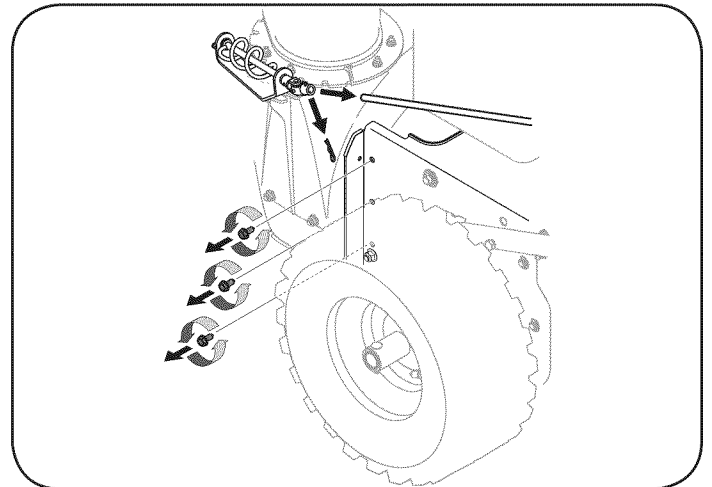

Figure 28
1. Remove the chute crank rod from the chute crank assembly by removing the hair pin clip shown in Figure 28. Move the chute crank rod away from the assembly as shown.
2. Remove three self-tap screws on both sides of the transmission housing as shown in Figure 28.